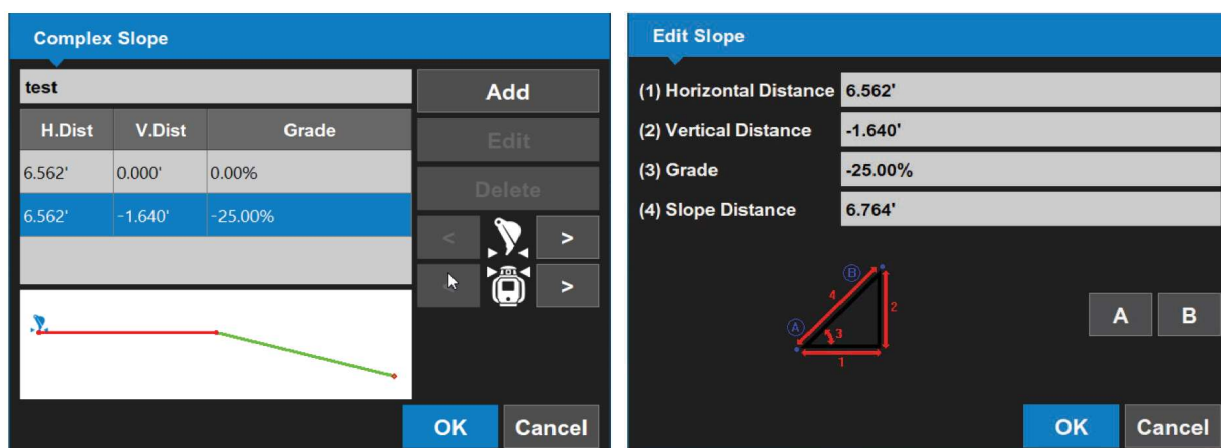

Figure 8-57: Complex Slope and Edit Slope Screens
1. Press the Power button on the display, then select **Tools > Complex Slope**. The **Complex Slope** screen appears (Figure 8-57).
2. To add a **Slope Element**, select **Add** and enter the parameters on the **Edit Slope** screen (Figure 8-57).
3. Select **OK** to return to the **Complex Slope** screen (Figure 8-57).